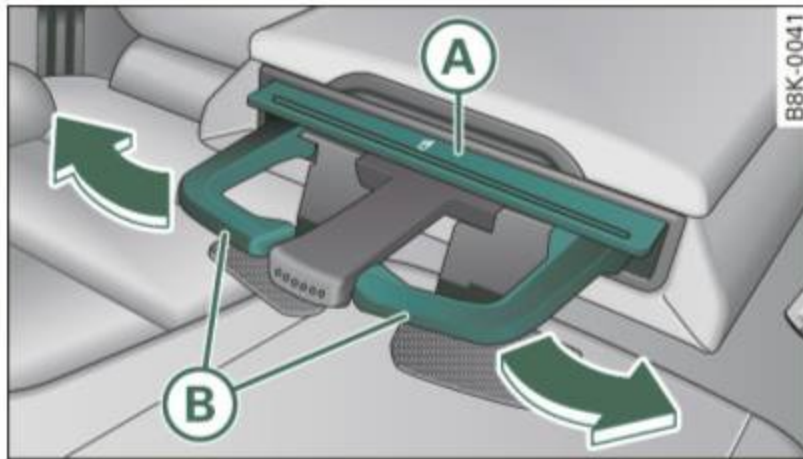

Fig. 98 Beverage storage in the rear armrest
- Press on the symbol (A) ⇒ fig. 98.